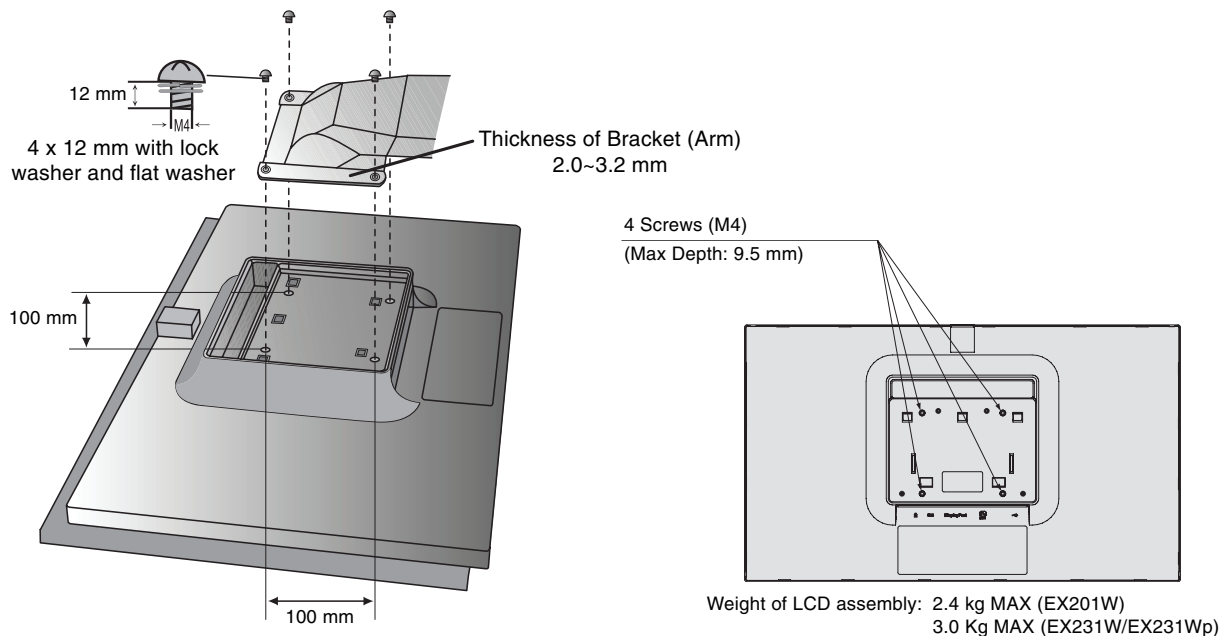

Figure F.1
2. Using 4 screws attach the arm to the monitor (**Figure F.1**).